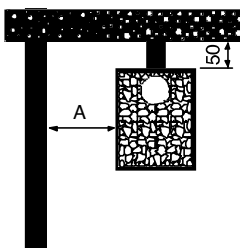

Figure 4.
4. If the wall is made of masonry, a 50 mm air gap between the vertical surfaces of the heater and the walls will be sufficient. (Figure 4).